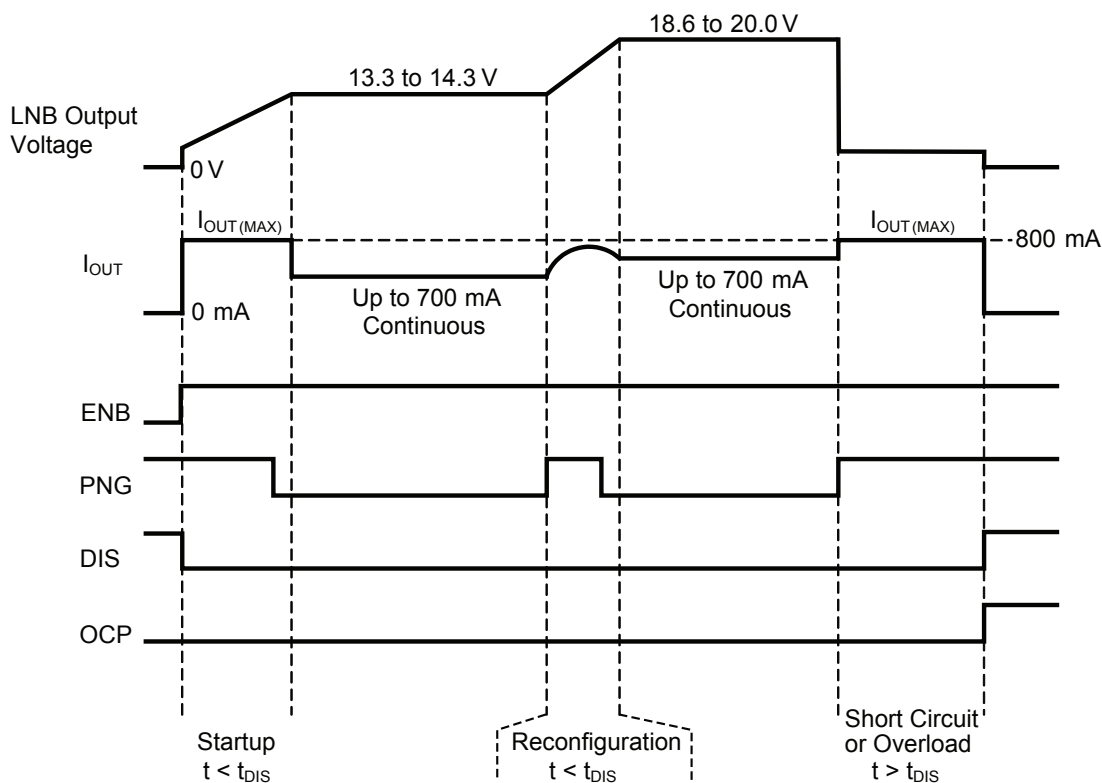

Figure 1. Startup, Reconfiguration, and Short Circuit operation using  $R_{SET} = 37.4 \text{ k}\Omega$ , and a capacitive load
**LNB and BOOST Current Limits.** The LNB output current limit,  $I_{\text{OUT(MAX)}}$  can be set by connecting a resistor ( $R_{\text{SET}}$ ) from the ISET pin to GND as shown in the applications schematic. The LNB current limit can be set from 300 to 800 mA, corresponding to an  $R_{\text{SET}}$  value of 100 to 37.4 k $\Omega$ , respectively. If the LNB current limit is exceeded for more than the Overcurrent Disable Time ( $t_{\text{DIS}}$ ) then the A8295 will be shut down and the OCP bit set, as shown in figure 1. The LNB output current limit can be set as high as 950 mA ( $R_{\text{SET}} = 31.6$  k $\Omega$ ) but care should be taken not to exceed the thermal limit of the package or thermal shutdown (TSD) will occur. The typical LNB output current limit can be set according to the following equation:
If the LNB output current exceeds the set output current, for more than 45 ms, then the LNB output will be disabled and the OCP bit will be set. See figure 1.